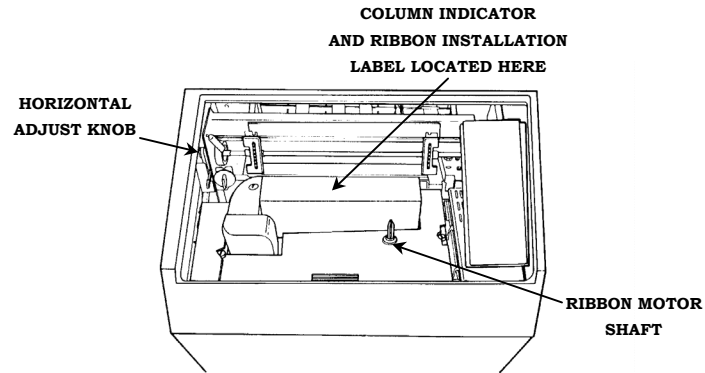

Figure 2-18 Top View of Printer
The column indicator label is located on the print module access panel. The column indicator label also contains directions for replacing the ribbon cartridge. See Figure 2-18. Use this label as a guide to position the paper horizontally within the printer. Turn the horizontal paper adjustment knob to align the paper as needed. This positions the paper for the first physical print column.
16. Lower the right side onto the ribbon motor drive shaft (Figure 2-18). Turn the knurled knob on the ribbon cartridge (Figure (2-19) a few times to verify that the ribbon is running freely and to remove any slack.